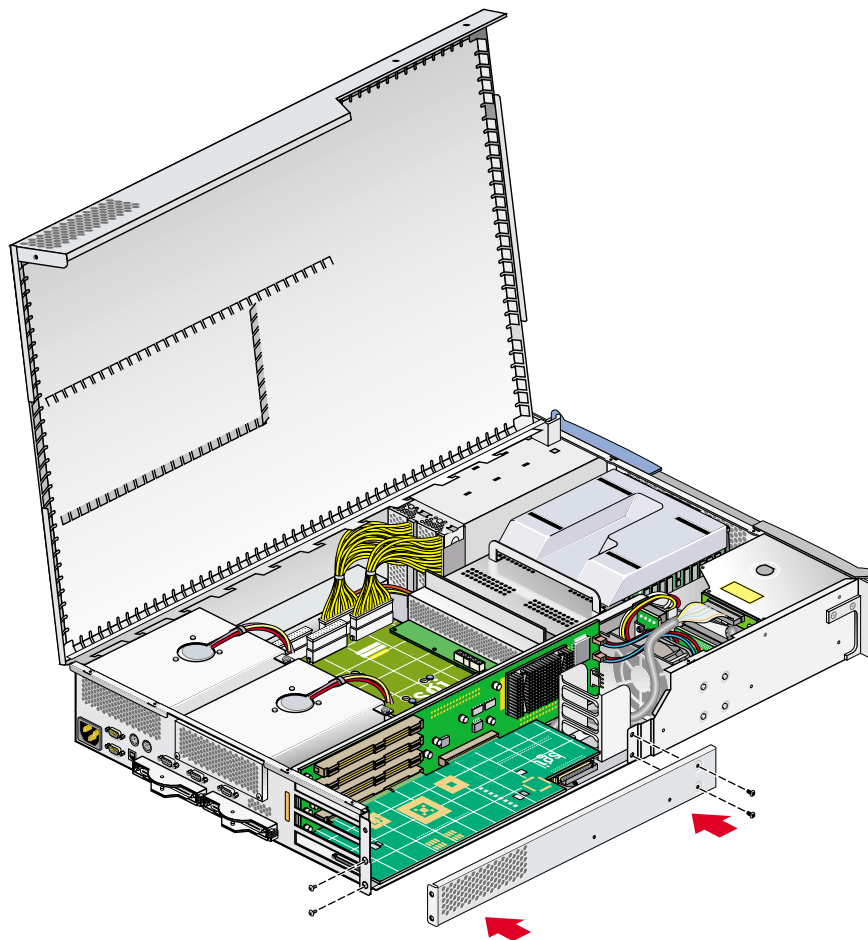

Figure 6-7 Replacing the Lower PCI/PCI-X Support Bracket
11. If you have installed a card in one of the two bottom-most card slots, replace the lower PCI/PCI-X support bracket that covers the two bottom-most slots and screw in the four Phillips screws, as shown in Figure 6-7.